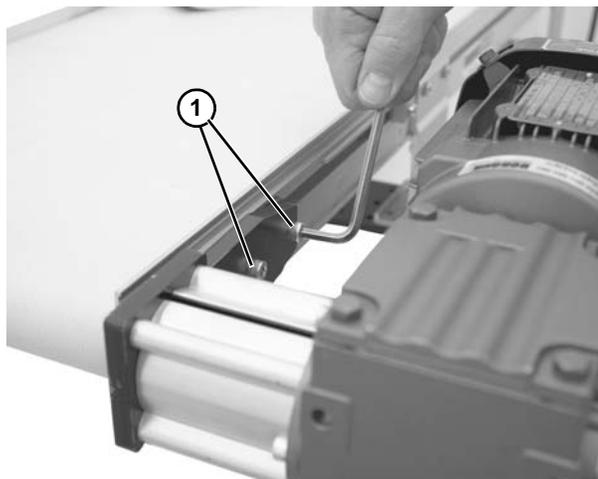

Figure 16
6. Remove mounting screws (**Figure 16, item 1**) and remove gearmotor.